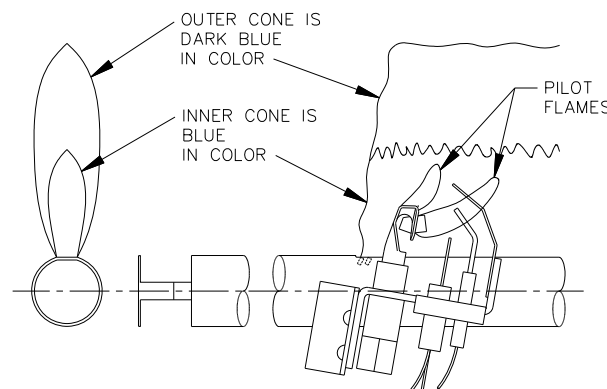

Figure 9.1: Intermittent Pilot and Main Burner Flame
2. Check the pilot and main burner flame. See Figure 9.1. The pilot should provide a steady flame enveloping 3/8" to 1/2" (1 cm to 1.2 cm) of the flame sensor. If required, adjust the pilot as stated in the gas valve manufacturer's instructions. The main burner flame inner cone should be approximately 1-1/2" (4 cm) high and should have a very sharp, blue color characteristic.